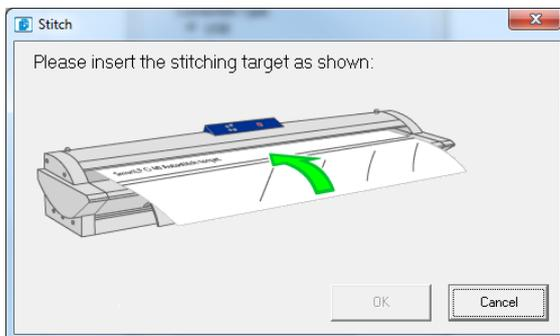

Fig 3-21
4. Next, click [Stitch] and follow the onscreen instructions (Fig 3-21). Close the window when complete.